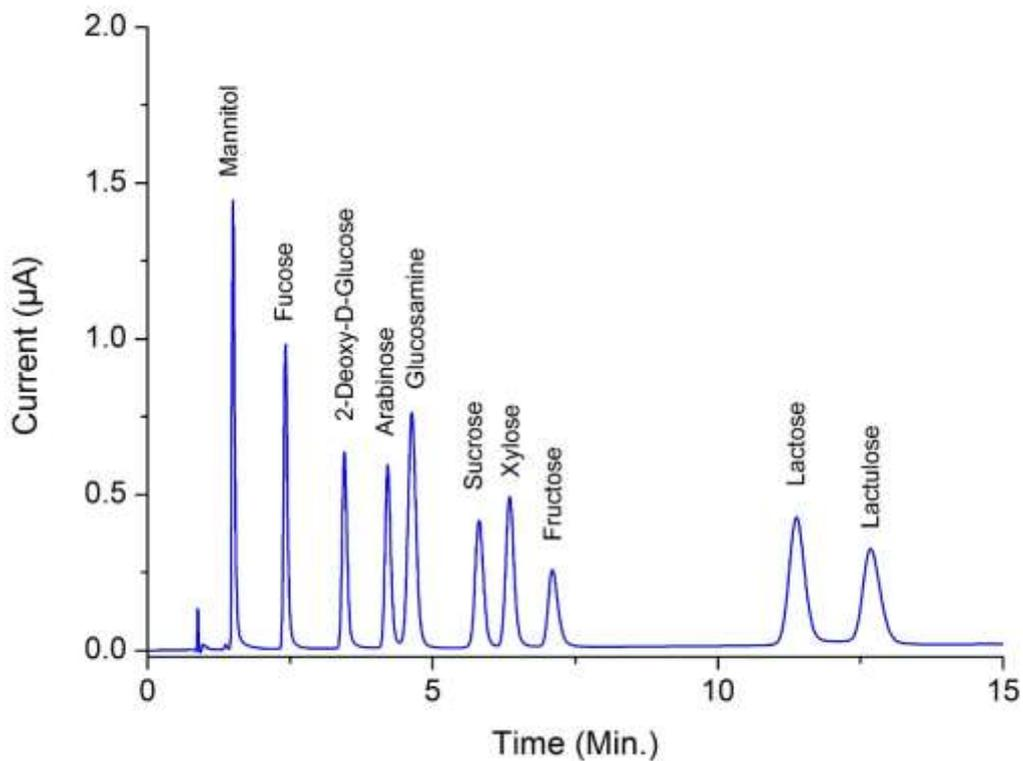

Fig. 41. Carbohydrate analysis in the pulse mode.
The DECADE Elite can operate in PAD mode (Not available in the DECADE Lite). In pulsed amperometric detection (PAD) the working electrode (WE) is regenerated at a frequency of 0.5 - 3 Hz by the application of a series of potential changes. This is particularly useful for certain applications where the working electrode is rapidly fouled due to adsorption of insoluble reaction products. A well-known application area of PAD is the analysis of carbohydrates (Fig. 41) [1].